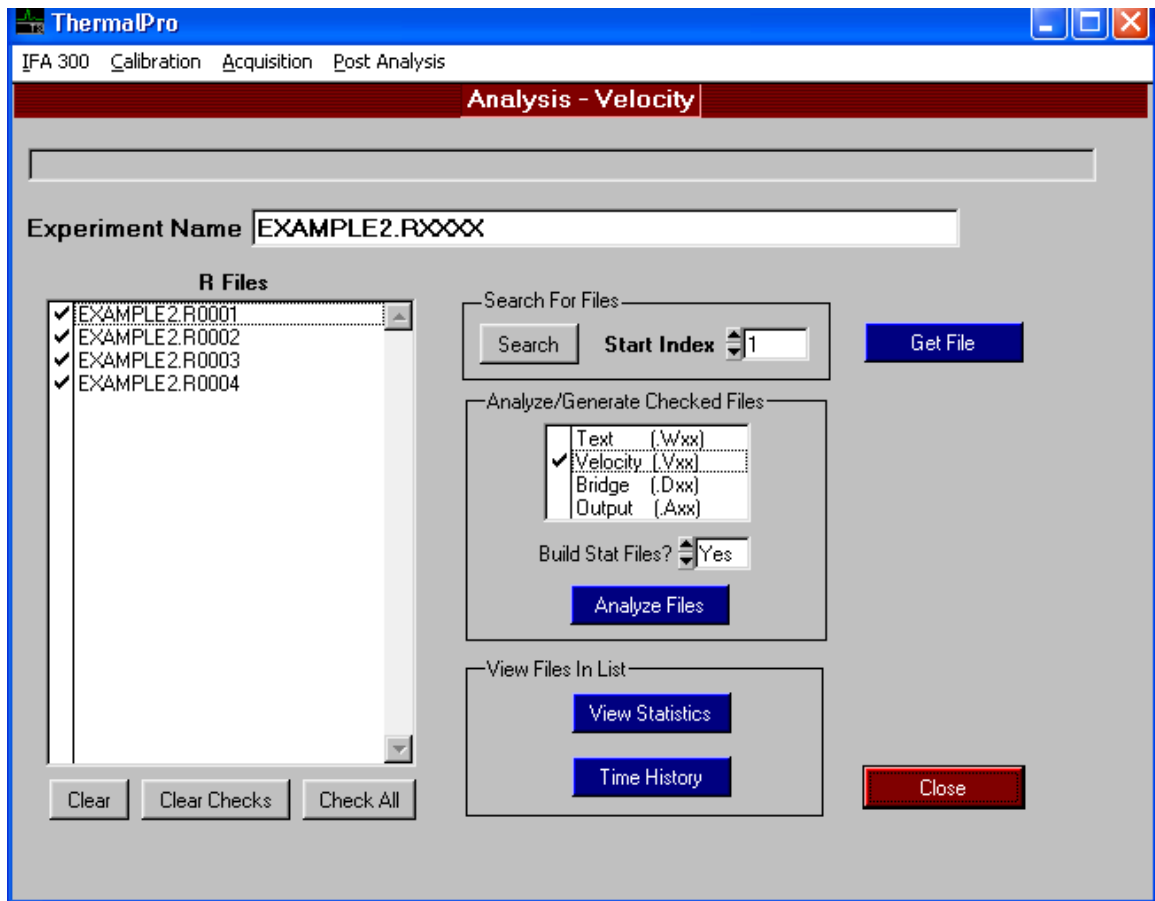

Figure 7-9
1. Select **Post Analysis** from the main menu and then **Velocity Analysis**. The screen shown in Figure 7-9 appears.